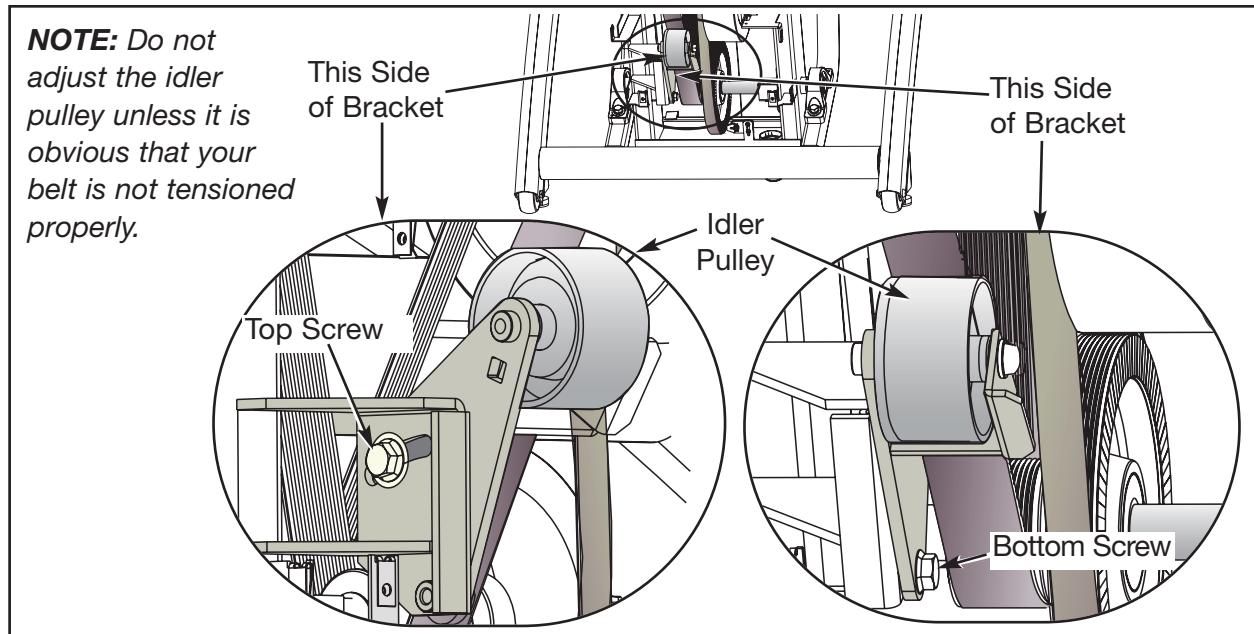

Figure 14
- A. Using a 1/2" socket wrench, loosen the bottom screw on the idler pulley. See Figure 14.
- B. Using a 1/2" socket wrench, loosen the top screw on the idler pulley. See Figure 14.
- B. While holding the torque wrench at 75 ft-lbs, use a 1/2" socket wrench to tighten the top screw on the idler pulley. See Figure 14.
- C. Using a 1/2" socket wrench, tighten the bottom screw on the idler pulley. See Figure 14.